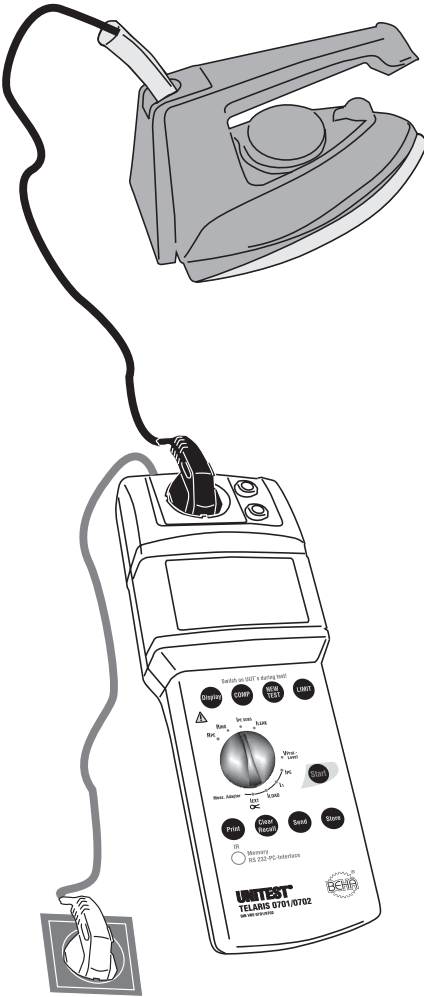
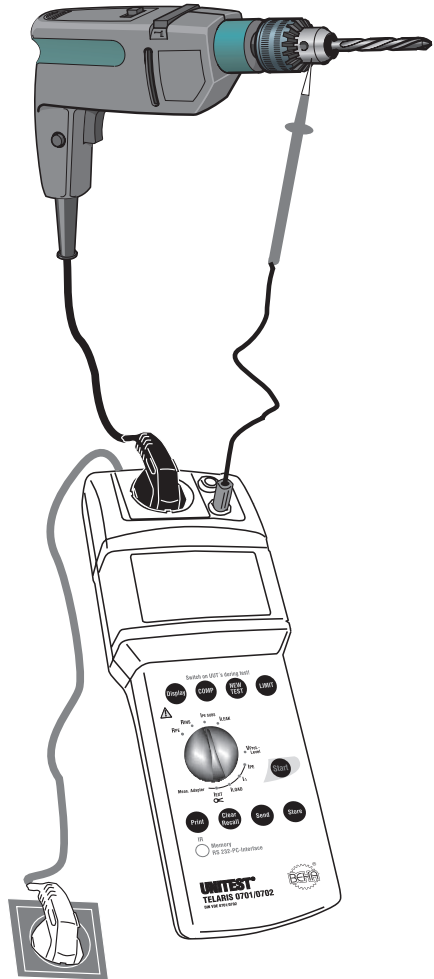

Figure 6.8: Measuring the substitute leakage current for appliances of protection class I
Figure 6.9: Measuring the substitute leakage current for appliances of protection class II
- ▶ Connect the UNITEST TELARIS 0701/0702 via the mains plug (1) to a functional and correct wired and grounded mains socket.
- ▶ Turn the ‘Measurement function’ selection switch (15) to position ‘IPE SUBS’.
- ▶ Plug the UUT mains plug into the test socket (3), please refer to Figure 6.8.
- ▶ Press the key “Start” (9). The unit symbol which is blinking on the display is an indication for the active measurement procedure.
- ▶ Read the measurement value from the LC display (6). If the limit value display is active, the symbol ‘LIMIT’ (21) indicates that the limit value has been exceeded.
-  For appliances of protection class II or III, additionally connect the ‘PE’ socket (5) to all touchable, conductive parts of the UUT; please refer to Figure 6.9. This is also applicable for conductive parts of class I appliances which are NOT connected to PE.
-  The measurement results can be saved by pressing the key “Store” (10). For references regarding the saving of measurement values, please refer to section 7.1 and 7.2.